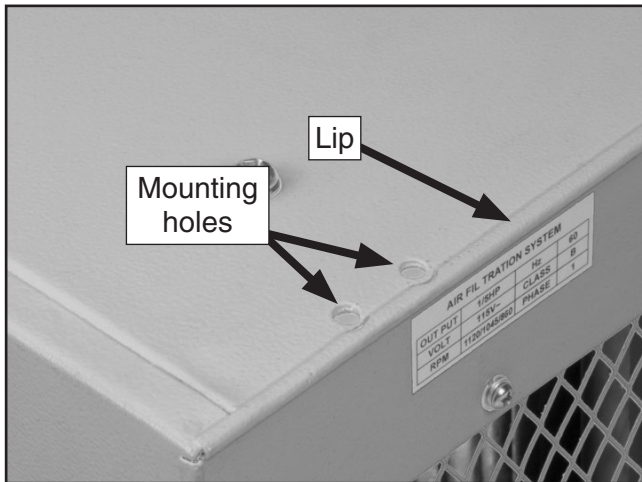

Figure 14. Flange bracket mounting holes and lip.
3. Position (1) flange bracket under air filter lip at mounting hole location (see **Figure 14**). For permanent table-top mounting, use the lower-lip holes (see **Figure 15**).